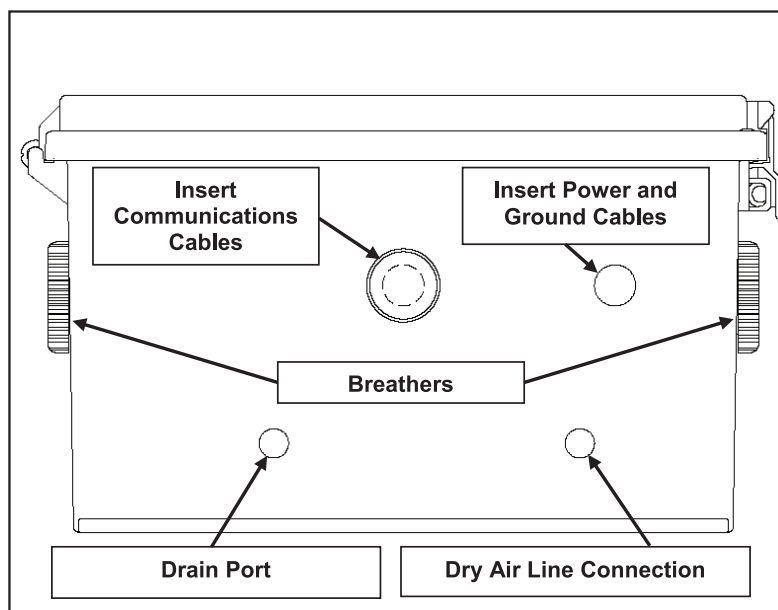

FIGURE 4. Base of NEMA enclosure.
3. At this time, make the drain port connection. For this step, there are two options, as desired, depending on the installation location and function. Refer to Figure 4. Either carefully connect the bronze muffler to the fitting on the drain port (to serve as a moisture diffuser), or connect an 1/8" NPT male end barbed hose fitting to the drain port fitting, attach a hose, then route the hose to a facility drain.
7. Two breathers are located on the enclosure, one on either side, as shown back in Figure 4 in this appendix. They allow air into the enclosure. Do not remove the breather caps. They are specially designed to let air into the enclosure, while preventing water and dust entry. Turn the breather caps clockwise at this time just to make sure they are properly seated.